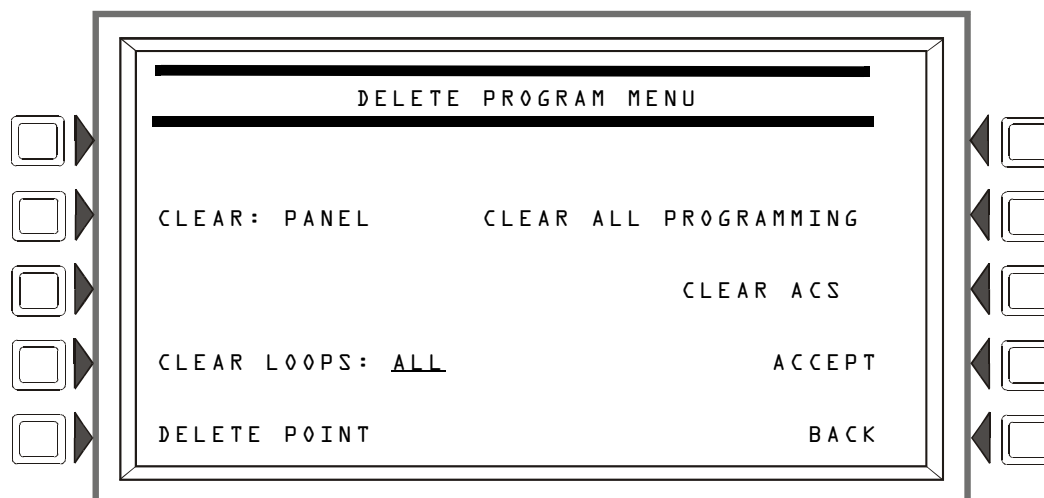

Figure 3.44 Delete Program Menu Screen
1. Use the Delete Program Menu screen (refer to Figure 3.44) to clear any applicable programming from the panel. For example, if loops one and two are to be autoprogrammed, clear the programming that exists by entering **1+2** at the Delete Program Menu screen.